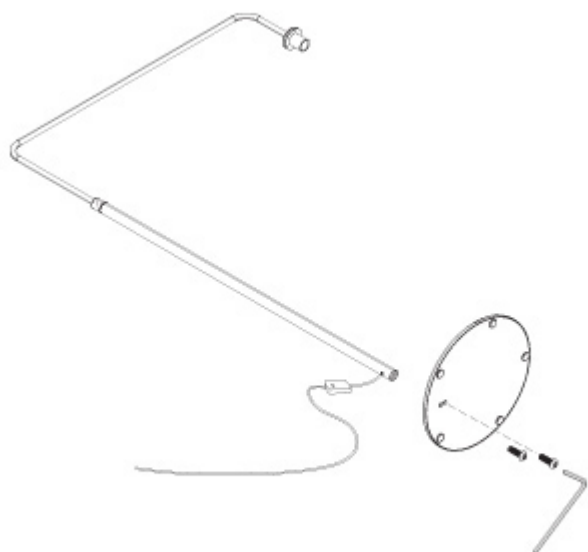

Figure 1
1. Set the lamp stem assembly on its side on a carpeted or protected floor to avoid scratches or other damage. Use the 3/16" Allen wrench to fasten the base plate to the stem assembly with the base hex screws. (Figure 1)